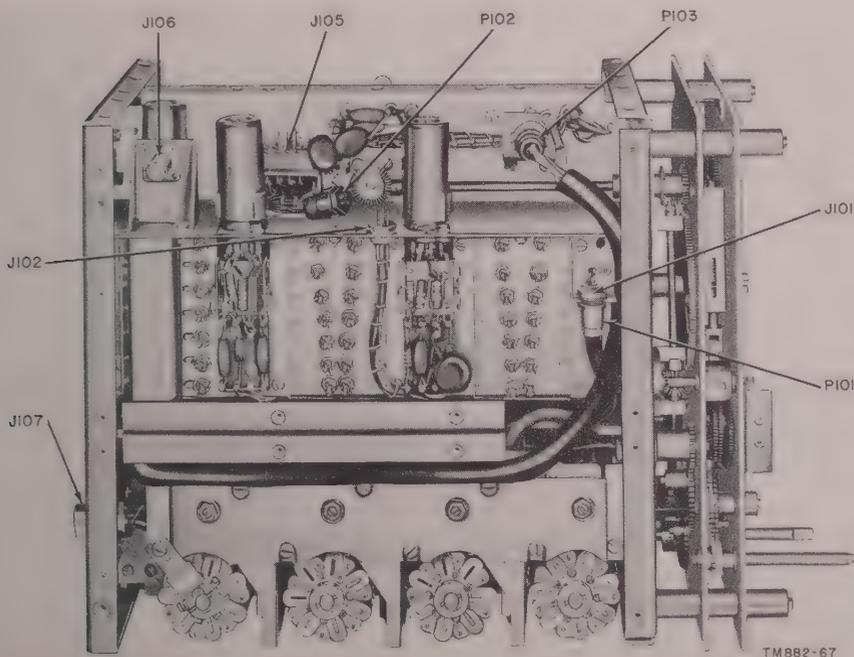
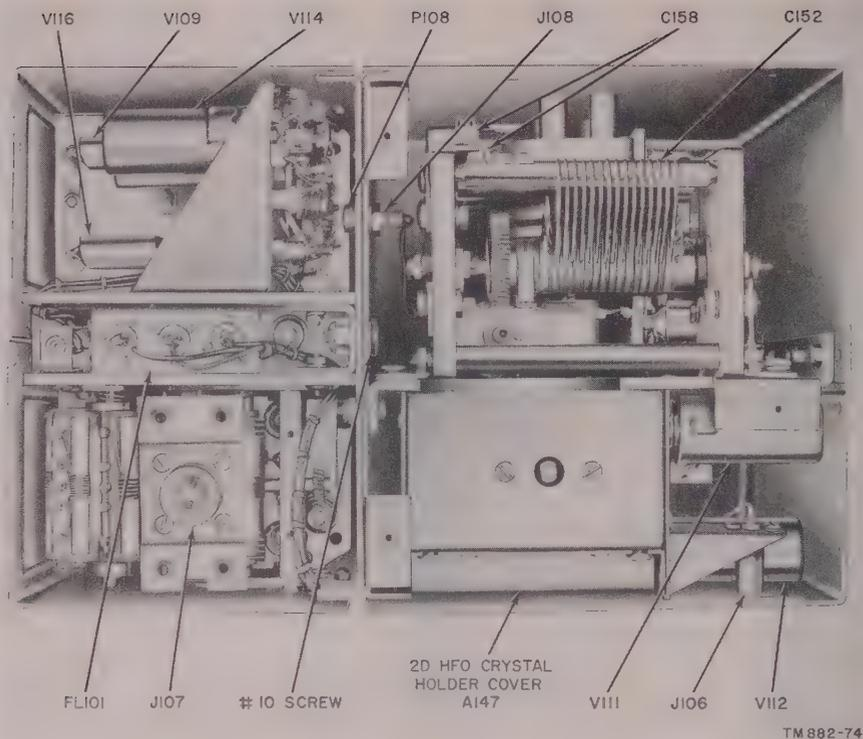

Figure 101. R-f unit, bottom view.
Figure 102. Radio Receiver R-220/URR, r-f unit, rear view.
- (1) Remove the four #4 flathead screws holding the rear cover to the frame.
- (2) Remove the four #6 flathead screws which retain the antenna input connector bracket.
- (3) Remove the rear cover.
c. Removal of Second Mixer Section (figs. 101 and 118).
- (1) Disconnect second mixer section power plug J102.
- (2) Disconnect coaxial cable connector P101 from J101.
- (4) Tilt the back of the chassis up and then draw the assembly up away from the baseplate.
- (5) Replace the second mixer section by reversing the above procedure.
d. Removal of First Mixer Section (figs. 101 and 102).
- (1) Disengage coaxial cable connector P101 of the first mixer section from jack J101 of the second mixer section.
- (2) Disconnect P108 from J108 of the first hfo section by using a long thin screw driver to pry up on the shoulder of the plug (fig. 102).